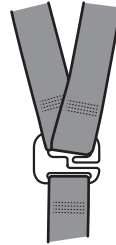
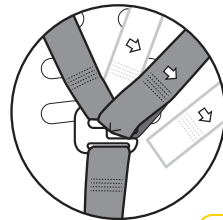

Figure 2
Figure 3
**Step 4:** Thread each shoulder harness strap back onto the "G" connecting plate through the gate (see Figure 3). The shoulder harness straps are connected to the "G" connecting plate (see Figure 2).
Fully extend the seat belt and pass the lap and sash sections of the vehicle belt under the first armrest, across the seat base ensuring you pass the seat belt beneath the tongue in the plastic moulding (refer Figure 4 & 5) then under the second armrest, “CLICK” the buckle tongue into the buckle (Refer to Figure 2, 3, 4 & 5).